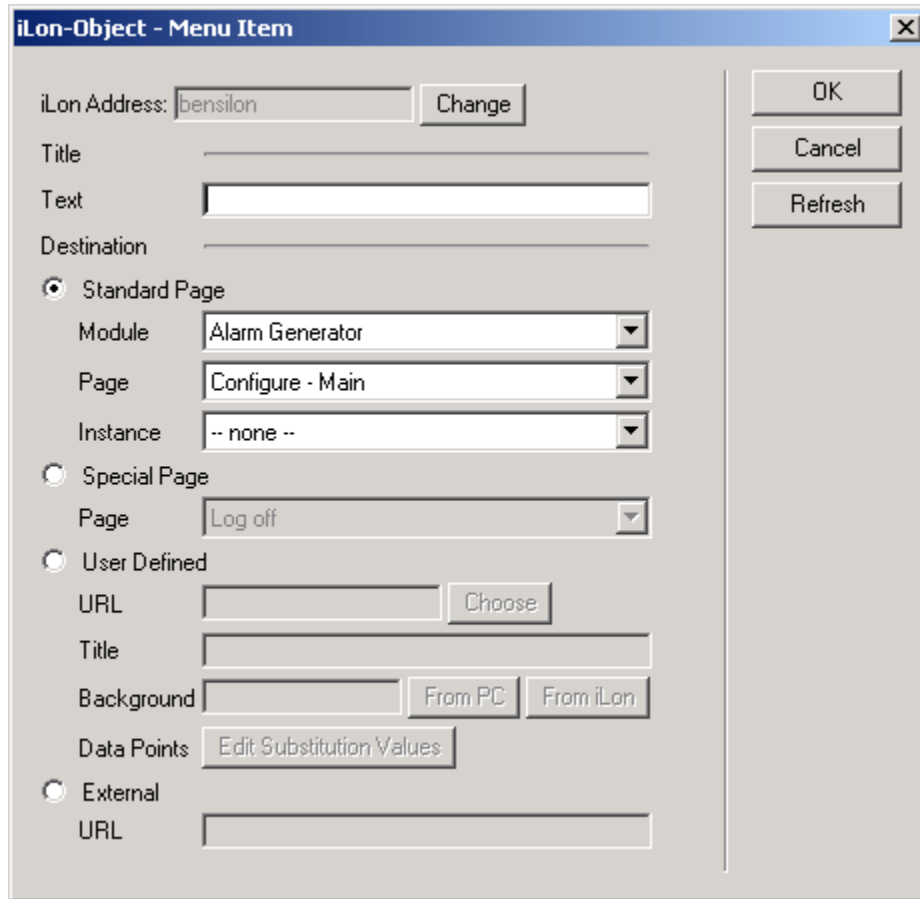

Figure 13.57 Menu Item Dialog – Editing Menu Options
3. For each of the new menu options you added in step 2, select the name you want to use for the menu option and the Web page you want the menu option to access. To do so, select the menu option you want to configure and then click **Edit Item**. The dialog shown in Figure 13.57 opens.